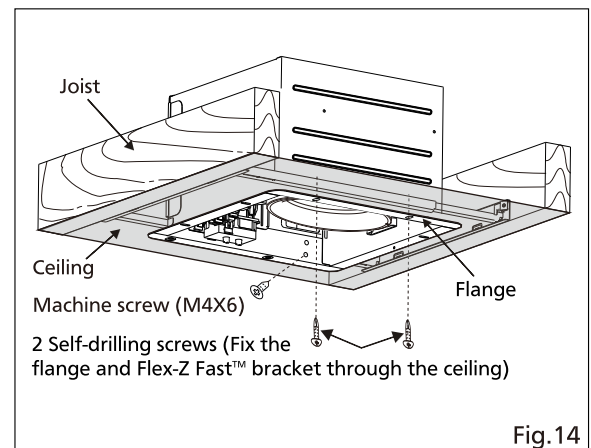

Fig.14
4. Secure the fan body to Flex-Z Fast™ bracket by using 2 self-drilling screws, plug connector to receptacle and secure the fan body to adaptor by using machine screw (M4X6). (Fig.14)